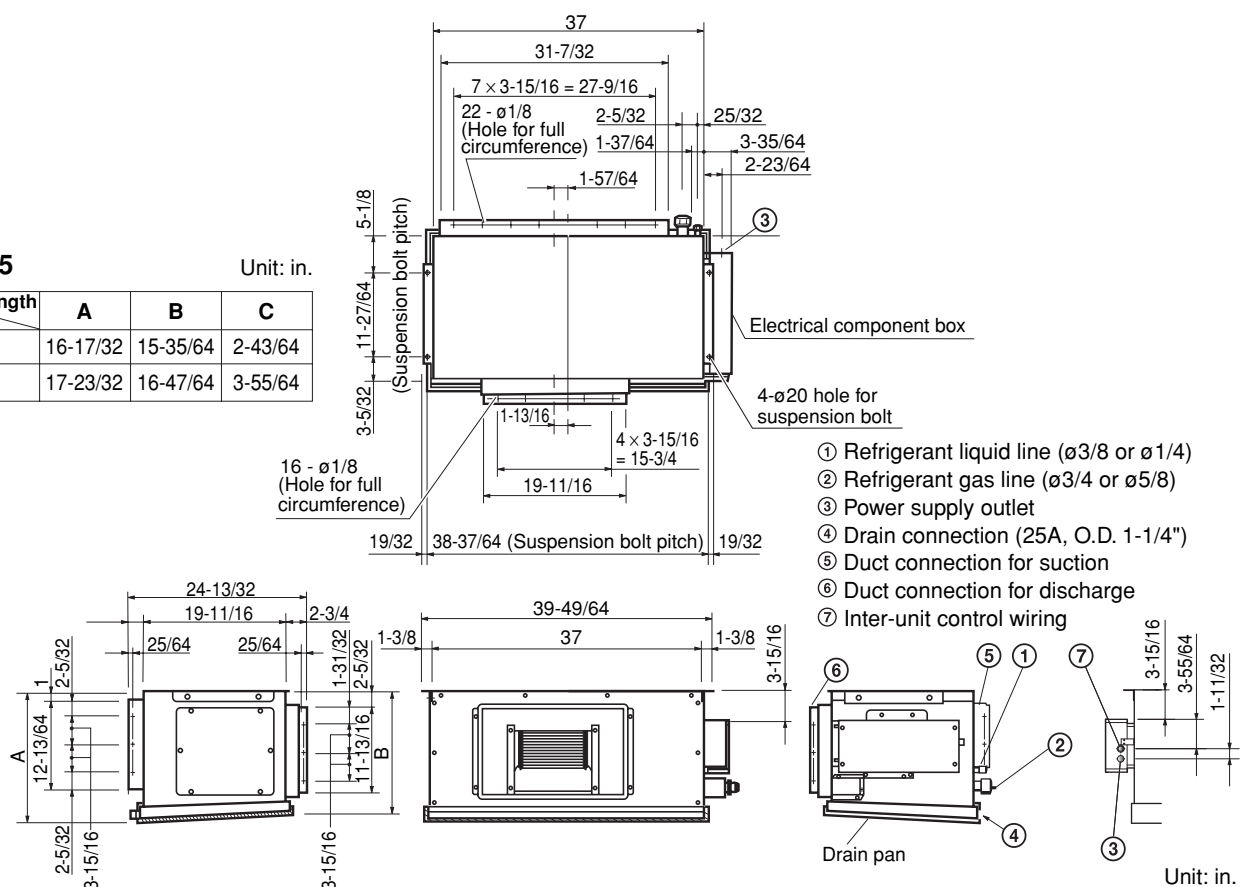

Fig. 3-78
- Fig. 3-78 and Table 3-3 show the detailed dimensions of the indoor unit.